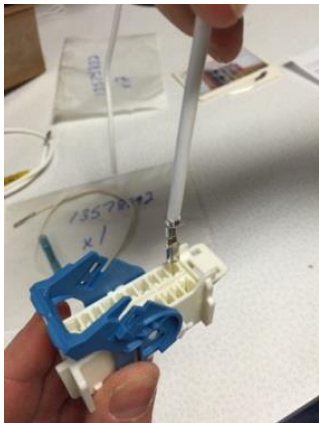

Figure 25: Installation of Wire
5. Place one 10ga wire into service connector pin 11, as shown in Figure 25, until you hear a click. Repeat with the other 10ga wire into pin 7.